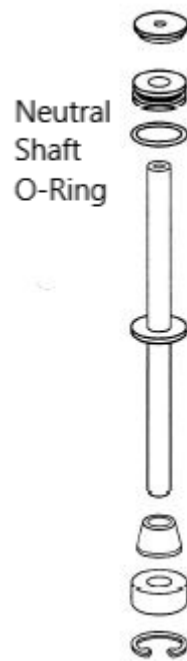

Figure 5
- Install new **Neutral Shaft O-Ring Figure 5** and lube with Elastomer Grease or a drop of cartridge oil